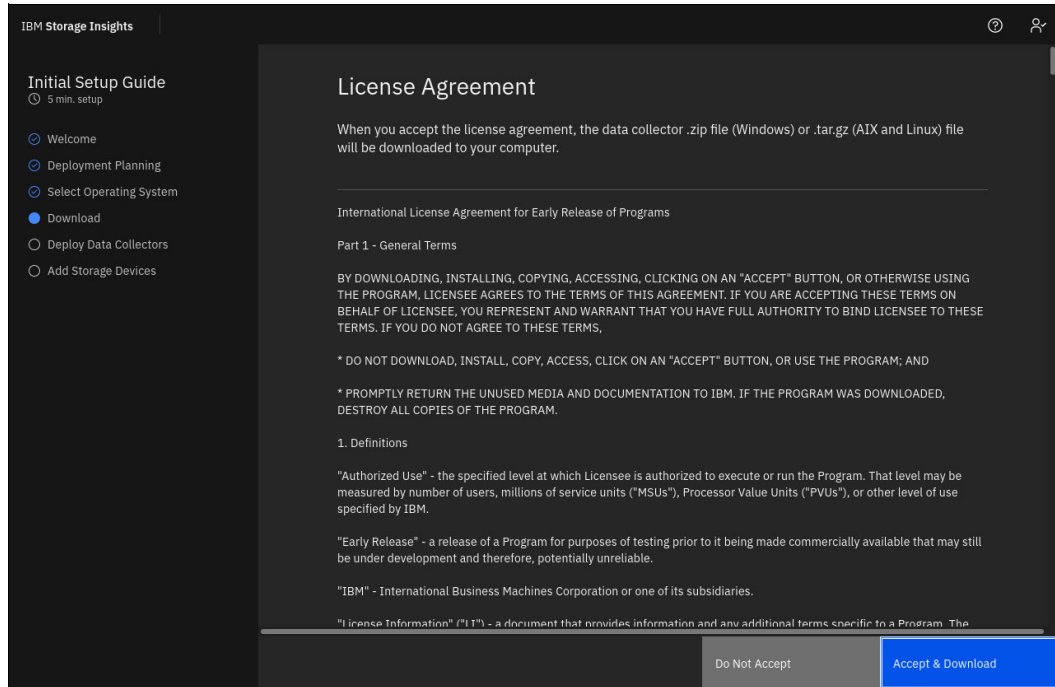

Figure 9-33 Data collector license agreement
2. Accept the license agreement for the data collector, as shown in Figure 9-33.